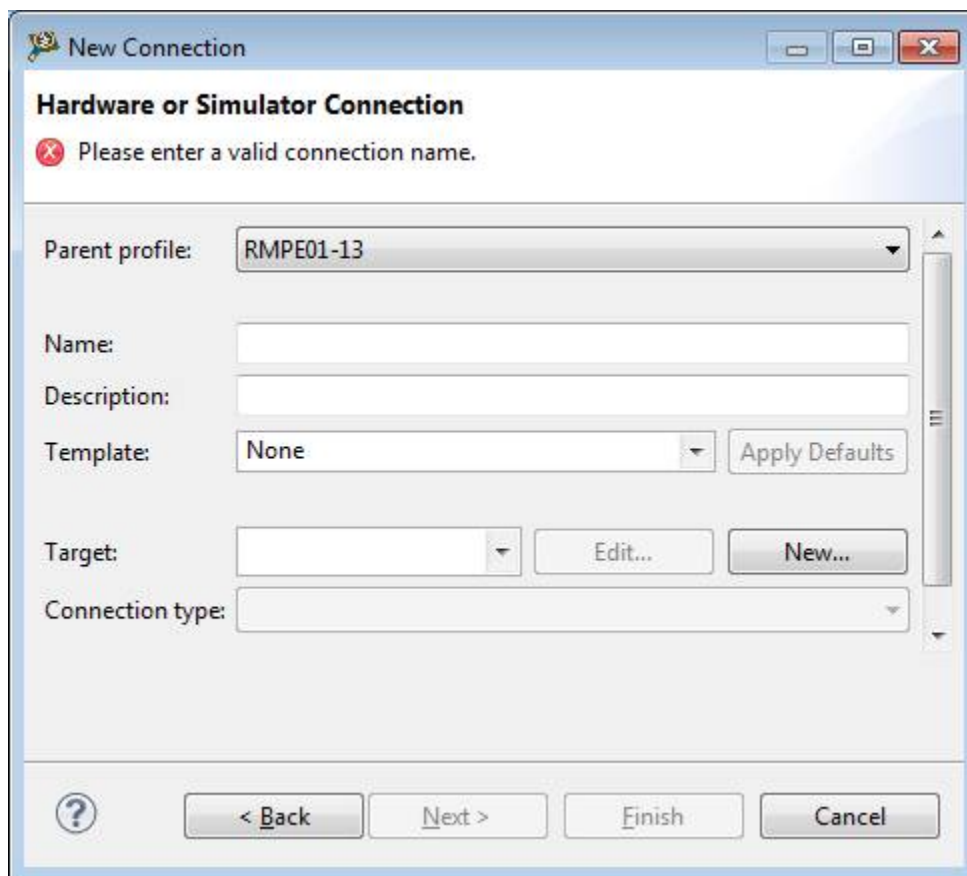

Figure A-4. Naming new CodeWarrior connection
5. Enter a valid connection name in the name field, see Figure A-4.
6. In the Target type field click **New...**, see Figure A-4.